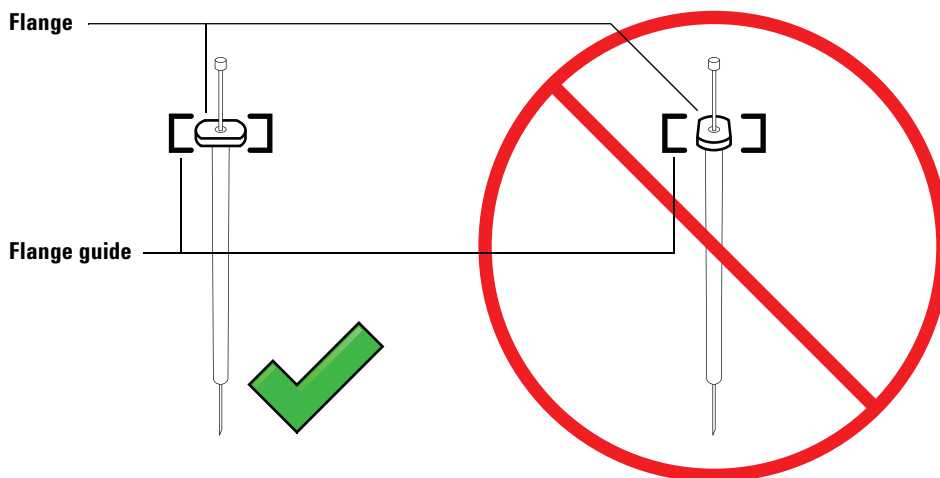

Figure 68 Syringe flange orientation
- 7 Align the syringe flange with the flange guide and press the syringe into place, keeping the needle end in the guide hole of the needle support foot. Make sure that the flat edge of the syringe flange faces out (Figure 68).